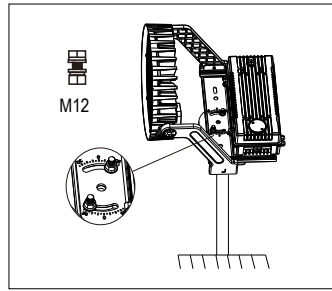

Figure 7
1. Adjust the lighting direction as needed with 360° rotation, then secure it with screws once the adjustment is complete (Figure 7).